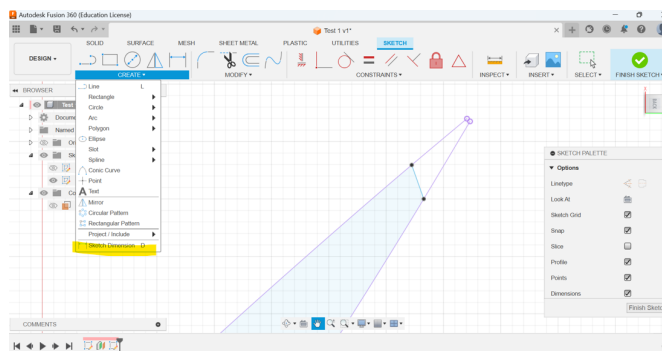

Figure 24
26. The little window called PROJECT should now appear. Also, the SKETCH PALETTE should appear. Make sure that 3D Sketch box is checked. When clicking on the element make sure that you click on the sketch itself as shown in figure 22a, and NOT on a point on the sketch as shown in 22b. If you click on a point by accident, just click “Esc” and try again. This can also be avoided by hiding Sketch 1 (Click on the eye icon to hide it, see the red arrow in Figure 24 showing that the eyeball is not checked/grey)